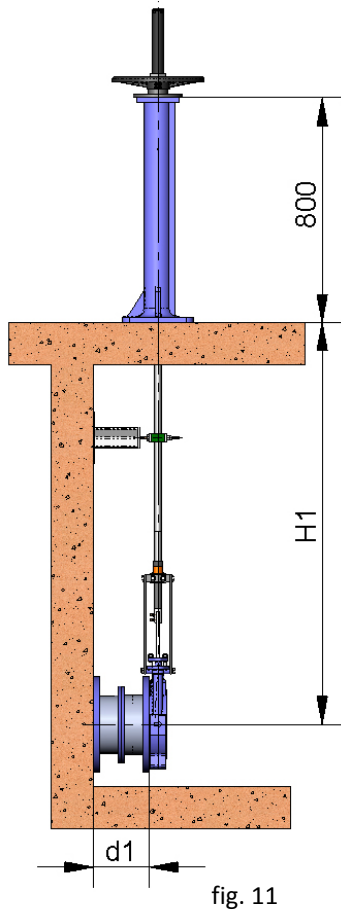

fig. 11
- The standard floor stand is 800mm high (Fig. 11). Other floor stand measurements available on request: